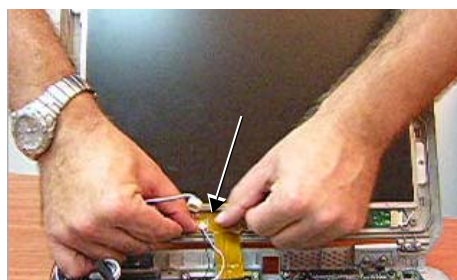

Figure 8-54 Disconnecting the Miniature Plug
- 4.) Disconnect the miniature plug from the cable connector below the LCD Display as shown in Figure 8-54.
- 1) Using the replacement Microphone Assembly, re-connect the miniature plug to the cable connector below the LCD Display (refer to Figure 8-54 on page 8-54).